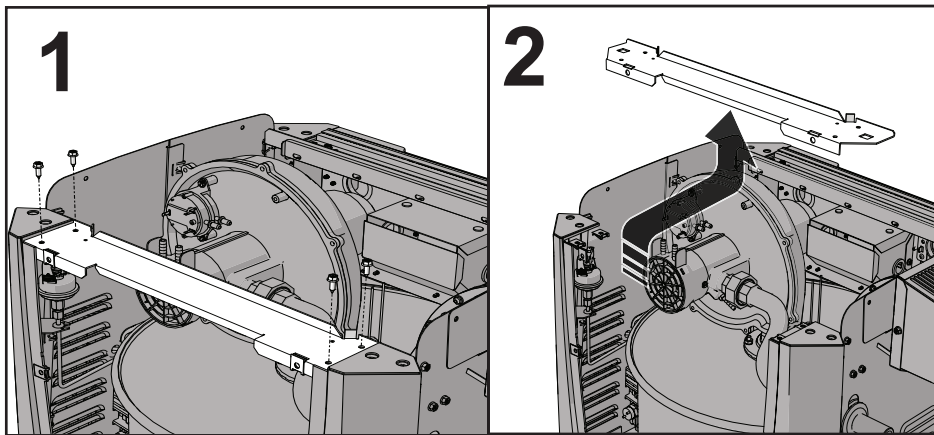

Figure 28. Remove Rear Brace Bar
10. Unscrew four (4) hex head screws and remove the rear brace bar for easier access to the gas train (Figure 28).